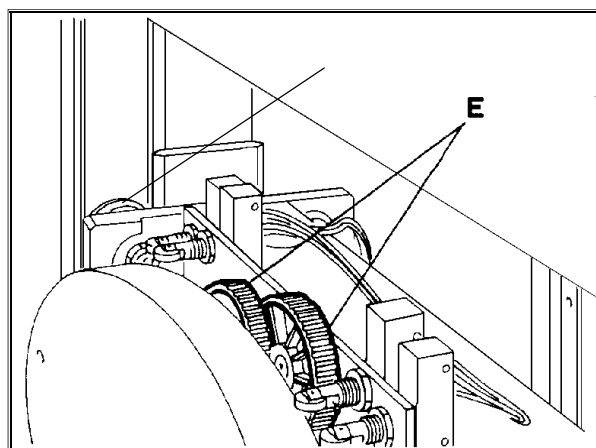

fig.7.9
- c.4) **DELTA 90-90PLUS only** . Lubricate the toothed wheels (E) and the raising wheels (E1), see fig.7.9.